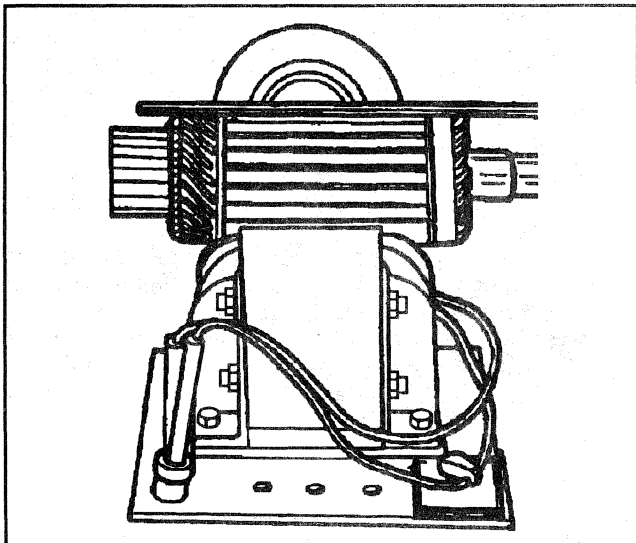

Figure 5—Testing the Armature for Short Circuits
Inspect (Figures 5 through 8)
4. Armature for short circuits (Figure 5).